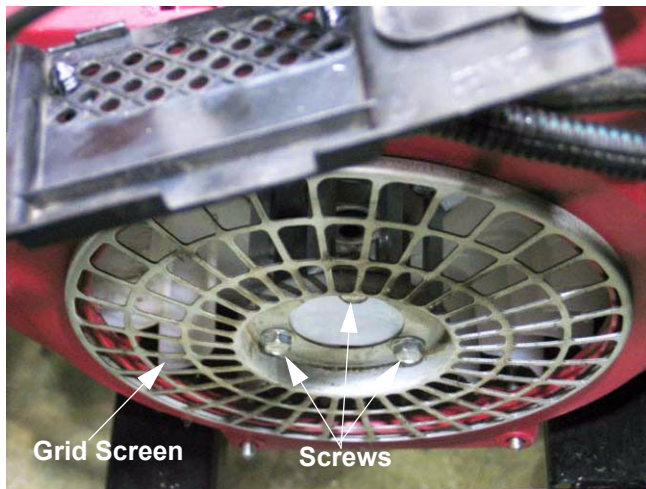

Figure 15.6
- 15.6. Remove the three screws securing the grid screen to the grid screen holder using a 10 mm wrench. Remove the grid screen. See Figure 15.6.